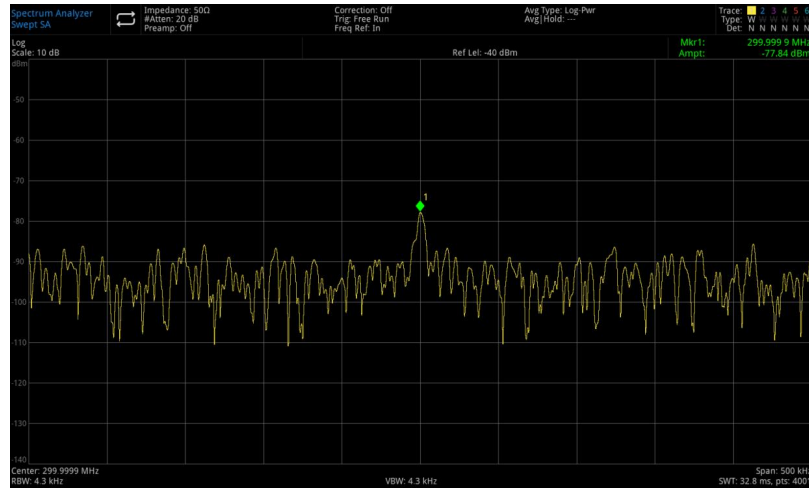

Figure 3-11 Signal Close to Ground Noise
5. Decrease the sweep bandwidth to 500 kHz (as shown in Figure 3-11)